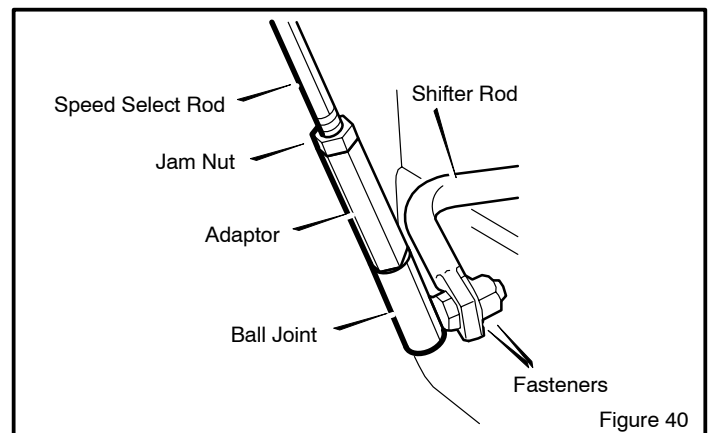

Figure 40
2. Loosen hex **jam nut** on **speed select rod**. Remove **ball joint** from **shifter rod** (see Figure 40).
4. Turn the **adaptor** until the **ball joint** is aligned with the mounting hole in the **shifter rod** (see Figure 40). When aligned, attach the **ball joint** to the **shifter rod**.